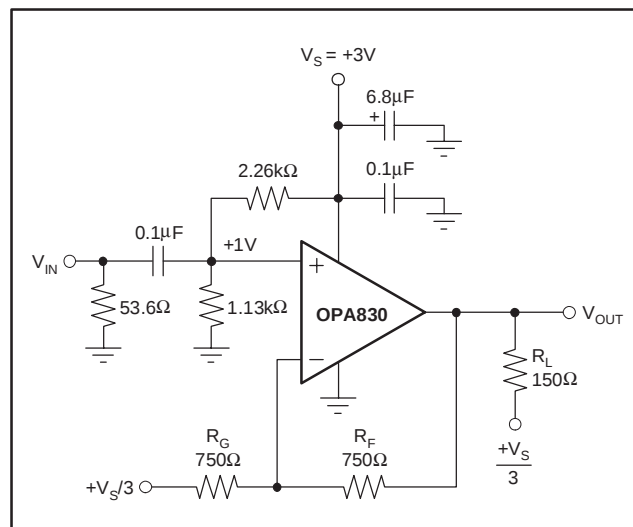
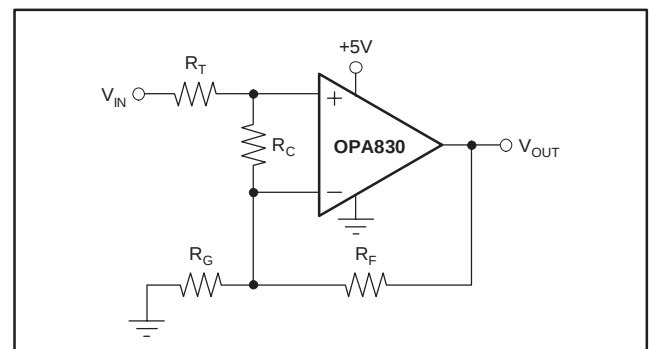

Figure 2. AC-Coupled, G = +2, +3V Single-Supply Specification and Test Circuit
Figure 7. Compensated Noninverting Amplifier
At $T_A = 25^\circ\text{C}$, $G = +2$, and $R_L = 150\Omega$ to $V_S/3$, unless otherwise noted (see Figure 2).
Figure 2 shows the AC-coupled, gain of +2 configuration used for the +3V Specifications and Typical Characteristic Curves. For test purposes, the input impedance is set to 50Ω with a resistor to ground. Voltage swings reported in
the Electrical Characteristics are taken directly at the input and output pins. For the circuit of Figure 2, the total effective load on the output at high frequencies is 150Ω || 1500Ω. The 1.13kΩ and 2.26kΩ resistors at the noninverting input provide the common-mode bias voltage. Their parallel combination equals the DC resistance at the inverting input (R_F), reducing the DC output offset due to input bias current.
Figure 7 shows a noninverting amplifier that reduces peaking at low gains. The resistor R_C compensates the OPA830 to have higher Noise Gain (NG), which reduces the AC response peaking (typically 5dB at $G = +1$ without R_C) without changing the DC gain. V_{IN} needs to be a low
Frequency response in a gain of +2 may be modified to achieve exceptional flatness simply by increasing the noise gain to 3. One way to do this, without affecting the +2 signal gain, is to add an 2.55k Ω resistor across the two inputs, as shown in Figure 7. A similar technique may be used to reduce peaking in unity-gain (voltage follower) applications. For example, by using a 750 Ω feedback resistor along with a 750 Ω resistor across the two op amp inputs, the voltage follower response will be similar to the gain of +2 response of Figure 2. Further reducing the value of the resistor across the op amp inputs will further dampen the frequency response due to increased noise gain. The OPA830 exhibits minimal bandwidth reduction going to single-supply (+5V) operation as compared with $\pm 5V$. This minimal reduction is because the internal bias control circuitry retains nearly constant quiescent current as the total supply voltage between the supply pins is changed.
The criterion for setting this R_S resistor is a maximum bandwidth, flat frequency response at the load. For a gain of +2, the frequency response at the output pin is already slightly peaked without the capacitive load, requiring relatively high values of R_S to flatten the response at the load. Increasing the noise gain will also reduce the peaking (see Figure 7).